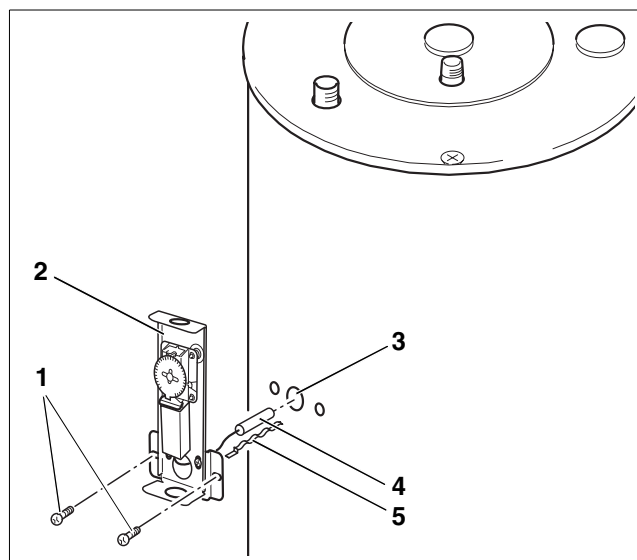

Fig. 9 Installation of Honeywell aquastat
- Insert aquastat capillary with tension spacer (Fig. 9, **Item. 4** and **5**) into tank dry well (Fig. 9, **Item. 3**).
- Secure aquastat assembly (Fig. 9, **Item. 2**) with 2 screws (Fig. 9, **Item. 1**) to the tank jacket.